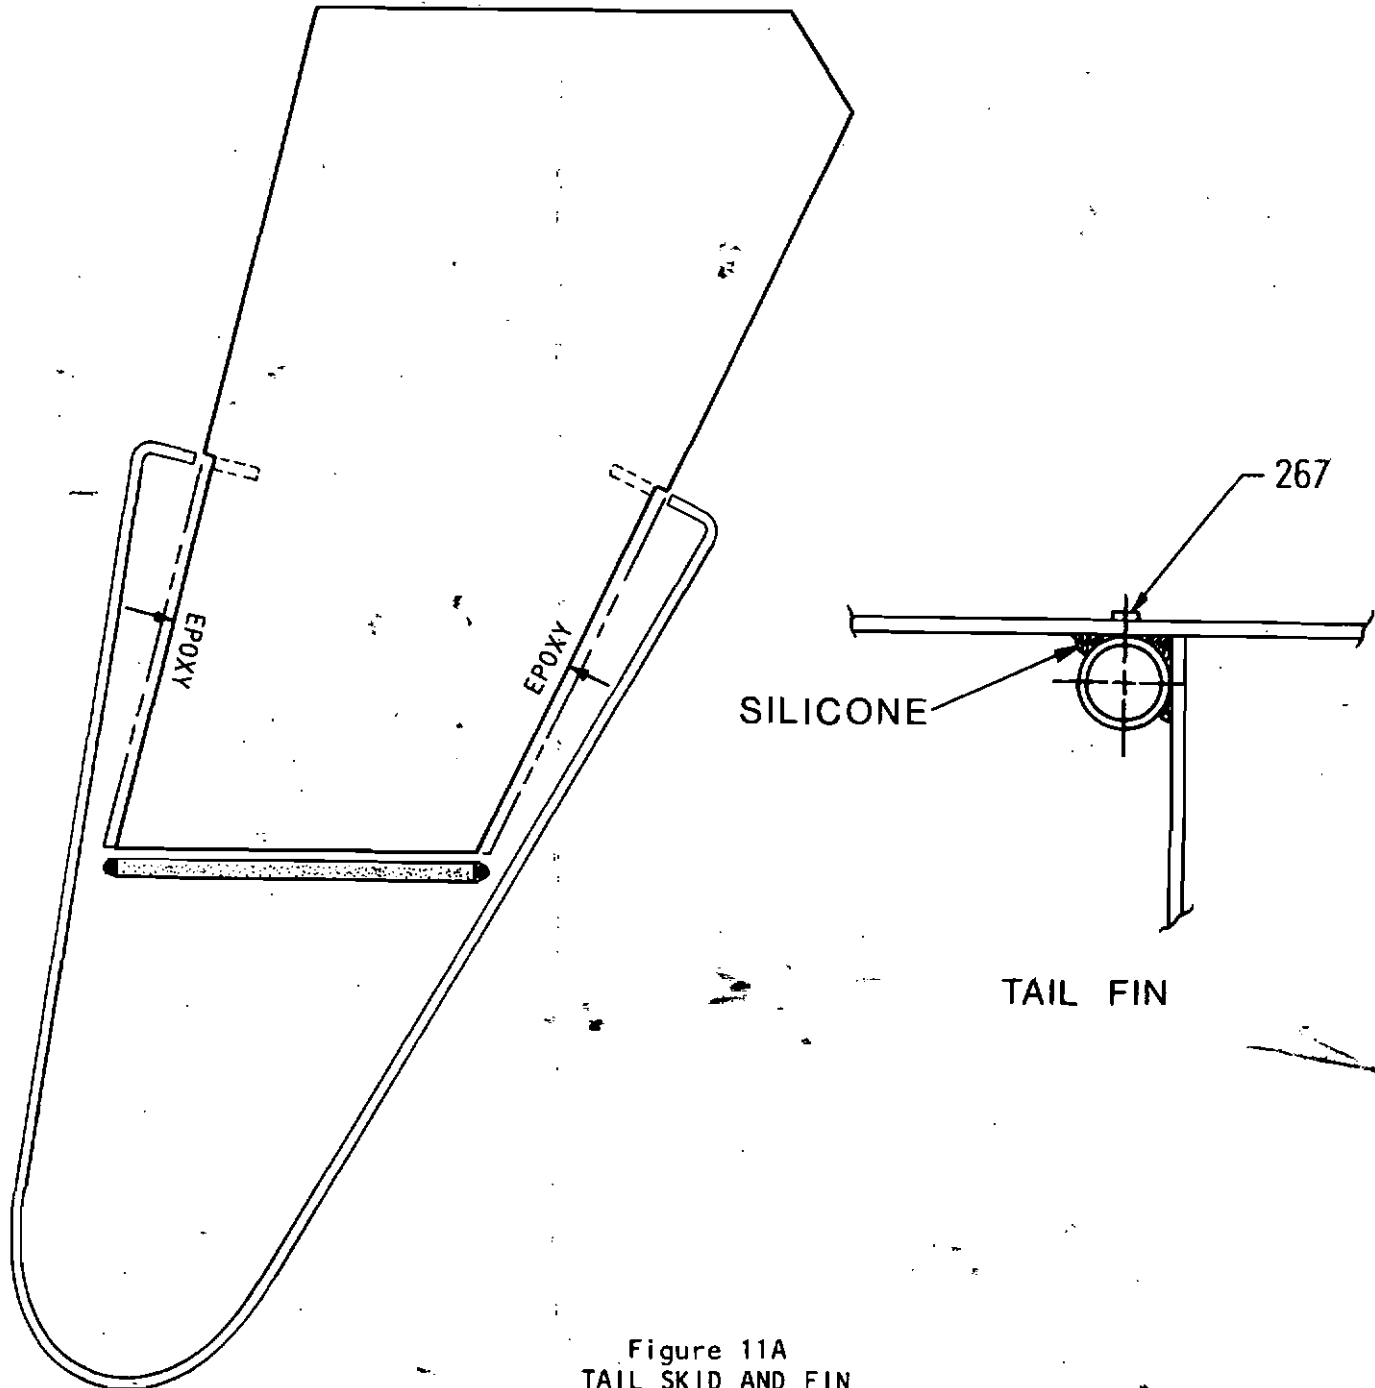

Figure 11A
STEP 15 TAIL FIN ASSEMBLY - see Figure 11A